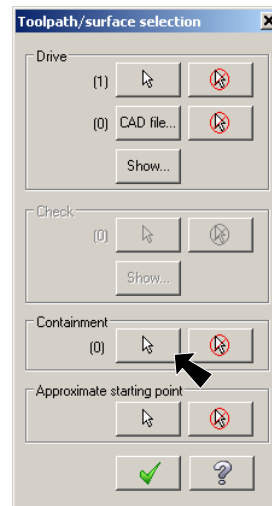

Fig. 6
Step 4. Click **Containment Select** button  in the Toolpath/surface selection dialog box, **Fig. 6**.
Step 4. Click **Containment Select** button  in the Toolpath/surface selection dialog box, Fig. 6.